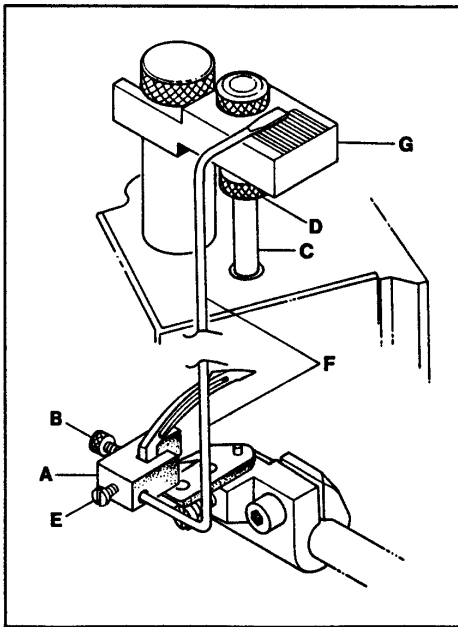
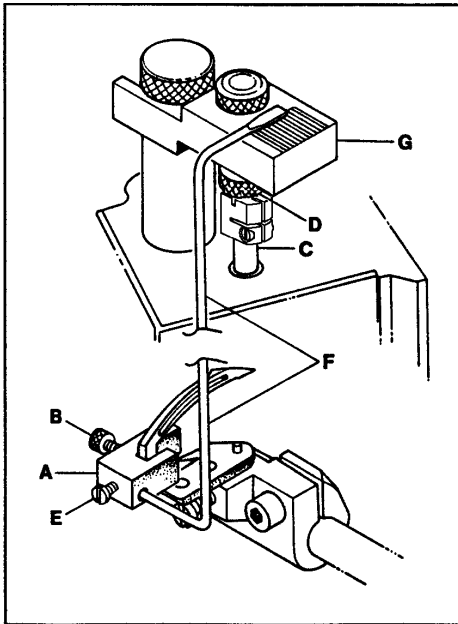
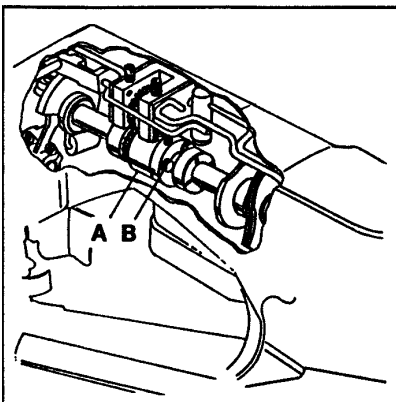

FIG. 9
FIG. 9A
FIG. 10
Attach the looper clamp and height gauge (A, Fig. 9) to the heel of the looper by tightening screw (B). Turn the handwheel slowly in a clockwise direction until needle bar (C) touches stop screw (D). Loosen screw (E) and set synchronizing gauge rod (F) so the flat end is on one of the lines in the center of the block (G). Tighten screw (E).
Turn the handwheel in the opposite direction until the needle bar (C, Fig. 9) or gauge block (Fig. 9A) touches stop screw (D, Fig. 9). Synchronizing rod (F) should come to the same line on block (G). The difference must not exceed one line.
If the setting cannot be achieved, main shaft coupling (A, Fig. 10) must be repositioned. Remove the crank chamber cover and gasket. Loosen the three coupling screws (B). If synchronizing rod (F, Fig. 9) moves more to the right while the handwheel is rotated in a clockwise direction, the looper is too fast and the main shaft should be retarded. If the rod moves more to the right when the handwheel is rotated in a counterclockwise direction the looper is too slow and the main shaft should be advanced. Tighten screws (B, Fig. 10).